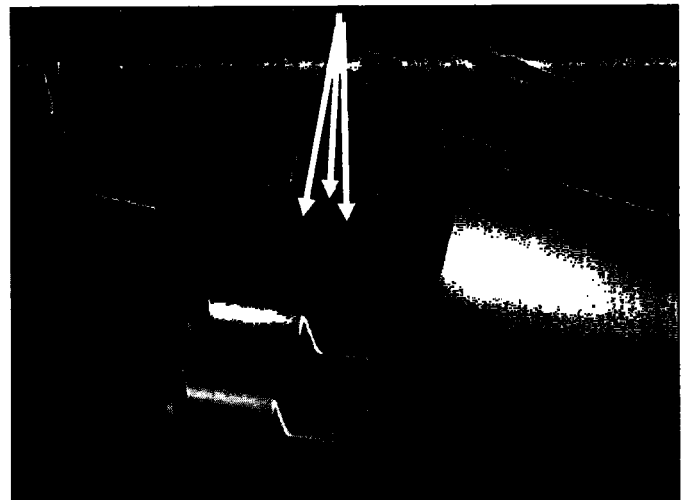

Figure 15
19. Remove the three bolts that hold the rear muffler hanger bracket to the vehicle body (see Figure 15).